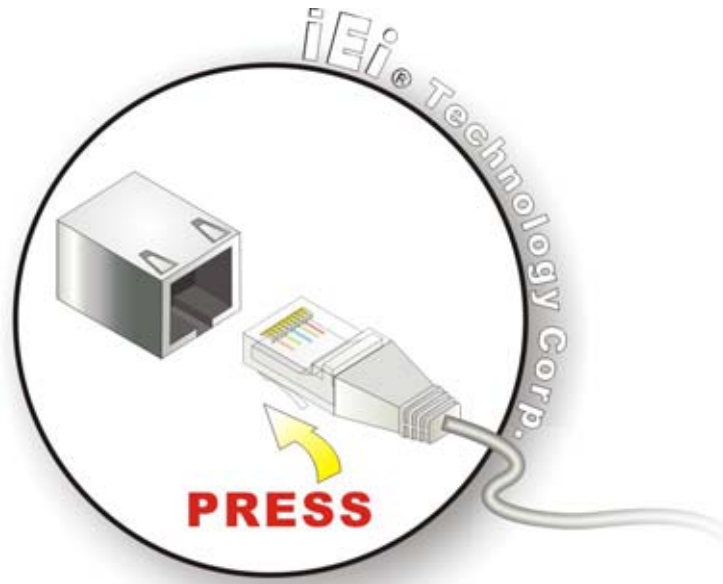

Figure 4-15: LAN Connection
Step 2: Align the connectors. Align the RJ-45 connector on the LAN cable with one of the RJ-45 connectors on the KINO-9653. See **Figure 4-15**.